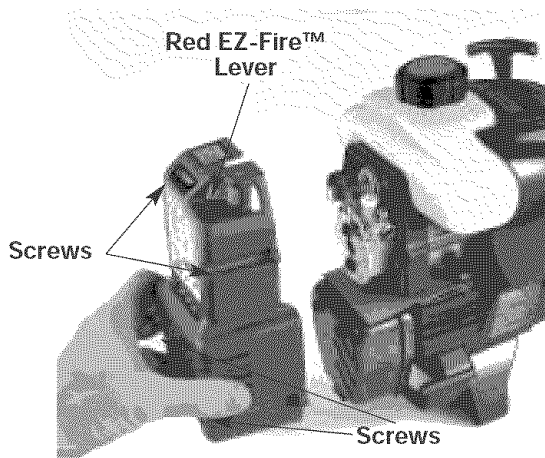

Fig. 12
1. Remove the four (4) screws securing the air filter/muffler cover (Fig. 12). Use a flat blade or T20 Torx bit screwdriver.
2. Insert the four (4) screws into the holes in the air filter/muffler cover (Fig. 12) and tighten.
9. Reinstall the air filter/muffler cover (Fig. 12).